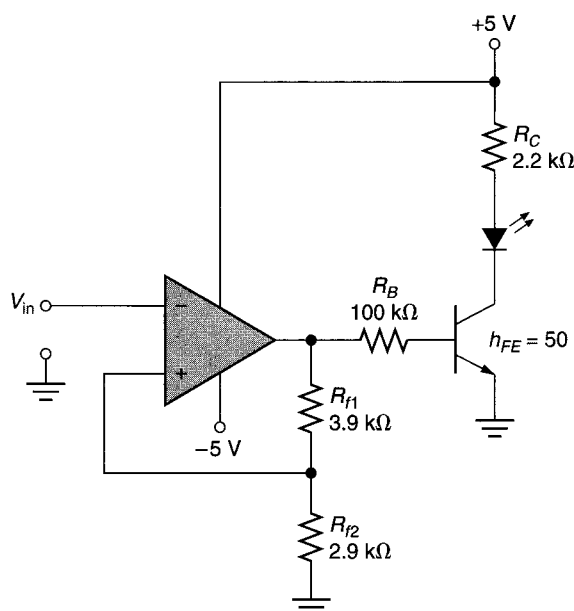

FIGURE 19.71
41. Refer to Figure 19.71. The circuit was intended (by design) to fulfill the following requirements: